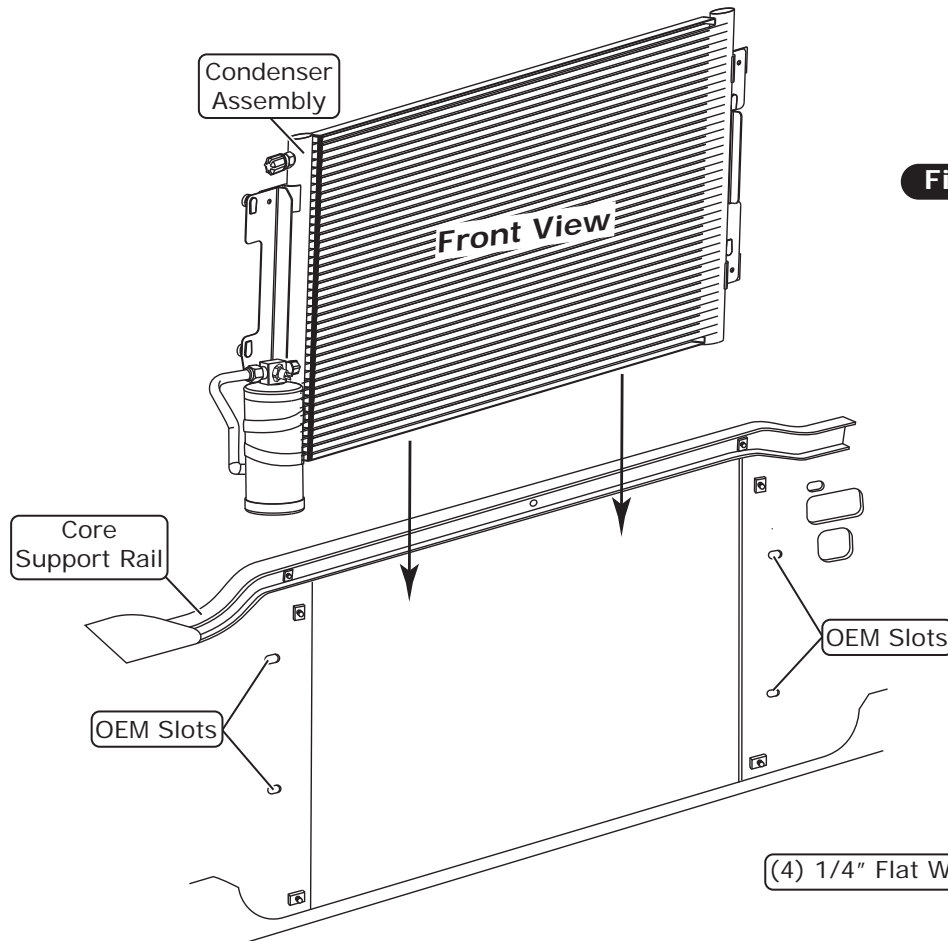

Figure 1
1. Install the condenser assembly onto the front of the core support as shown in Figure 1, below.
1. Lubricate a #6 O-ring as shown in Figure 1, Page 6. Install the #6 drier/core hardline onto the drier as shown in Photo 1, below. Tighten the fitting as shown in Figure 1, Page 6.
2. Lubricate a #8 O-ring as shown in Figure 1, Page 6. Install the #8 condenser hardline onto the #8 condenser fitting as shown in Photo 2, below. Tighten the fitting as shown in Figure 1, Page 6.